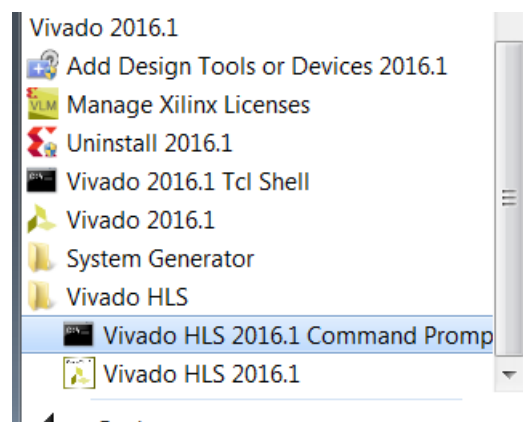

Figure 8-1: Vivado HLS Command Prompt
- On Windows use **Start > All Programs > Xilinx Design Tools > Vivado 2016.1 > Vivado HLS > Vivado HLS 2016.1 Command Prompt** (Figure 8-1).